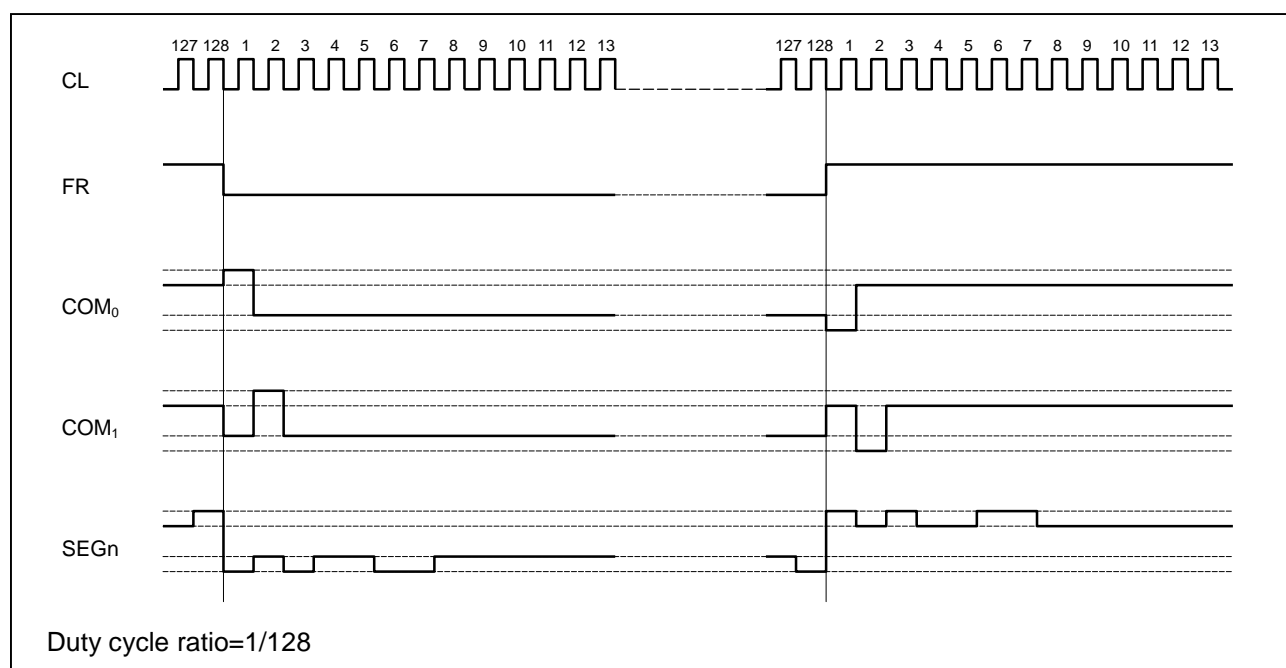
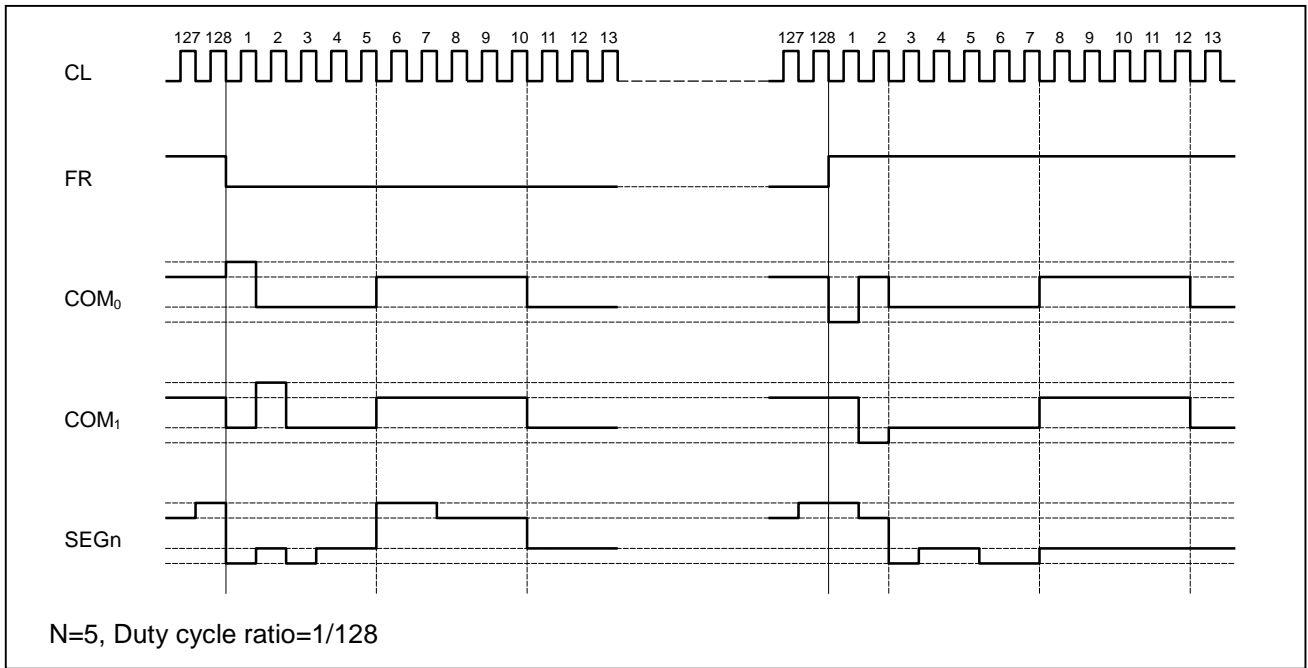

Fig.2-1 LCD driving Waveforms
Fig. 2-2. LCD driving waveforms in the N-line inversion mode
The display timing generator is used to generate the common timing signal (CL) and the internal frame signal (FR). The FR signal adopts the 2-frame AC driving method, in which the FR signal is toggled to alternate the crystal polarization on an LCD panel. It toggles on every frame in the default setting or once every N frames in the N-line inversion mode setting, as illustrated in Fig.2-1 and Fig.2-2.